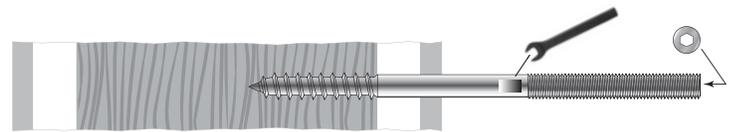

Figure 1
1. Install the Adjust-A-Body[®] with Hanger Bolt by driving the hanger bolt / lag end into the pre-drilled hole in your end post using a 5/32" hex wrench in the hex-broached end of the hanger bolt (if applicable) or a 1/4" wrench on the wrench flat between the machine threads and the wood lag (if no broach). (Figure 1)